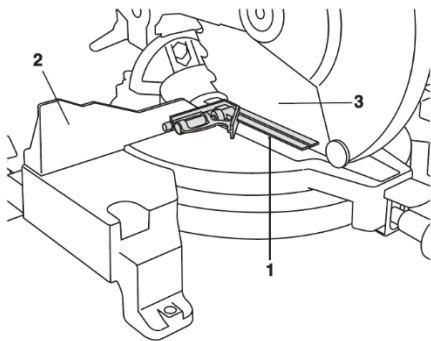

Fig.10
- 2.Hold a combination square 1 against the fence 2 and next to the blade 3 (Figure 10) . Avoid touching the saw teeth with the square.The set in the blade's teeth will hold the square away from the blade . The blade should contact the full length of the square.